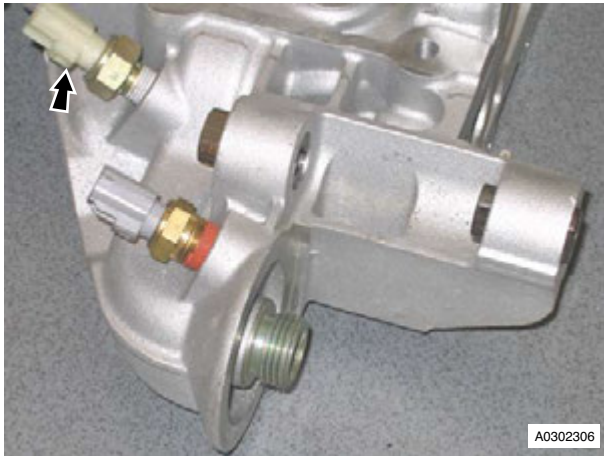

Figure 2
3. Remove oil pressure sensor (refer to Figure 2).